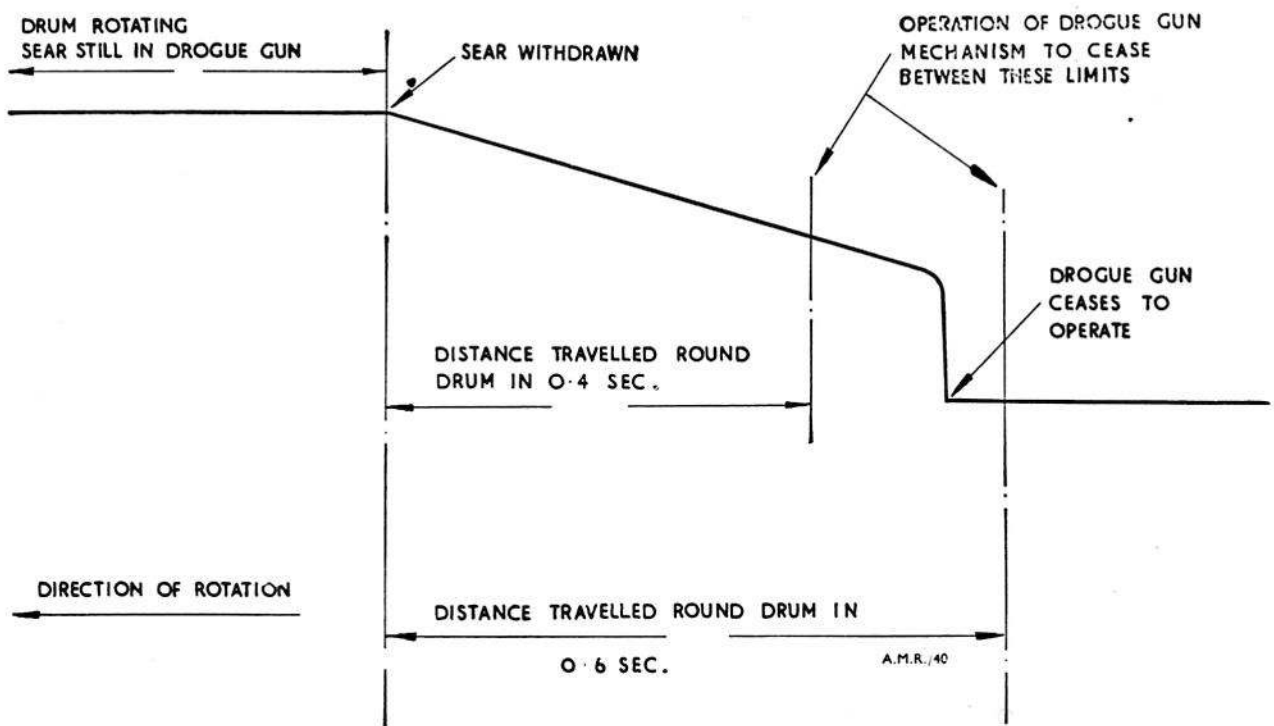

Fig. 16. Specimen graph
- (e) With the drum rotating, withdraw the sear from the drogue gun and, using the following formula, calculate the time taken for the time-delay mechanism to operate. An example graph is given in fig. 16.